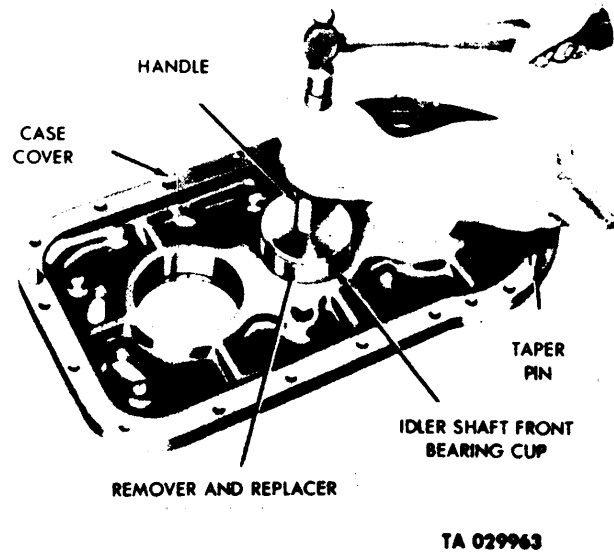

Figure 4-42. Removing Idler Shaft Front Bearing Cup.
- (2) Remote the input shaft front bearing snapping from the input shaft front bearing.
- (3) Using a suitable tool, remove the shift shaft oil seal from the cover.
- (4) Remove the idler-shaft front bearing cup by removing the bearing cup snapping. Using a suitable remover and replacer with handle (table 2-1, items 5 and 6), drive the idler-shaft front bearing cup from the transfer case cover. (See fig. 4-42.)